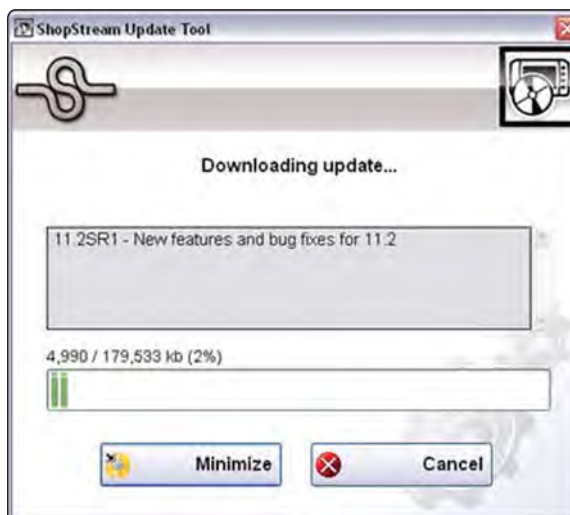

Figure 15-5 Typical - Downloading update window
- If updates are found, they will automatically begin to download (Figure 15-5).
The percentage status bar may not always be displayed while downloading (Figure 15-5).